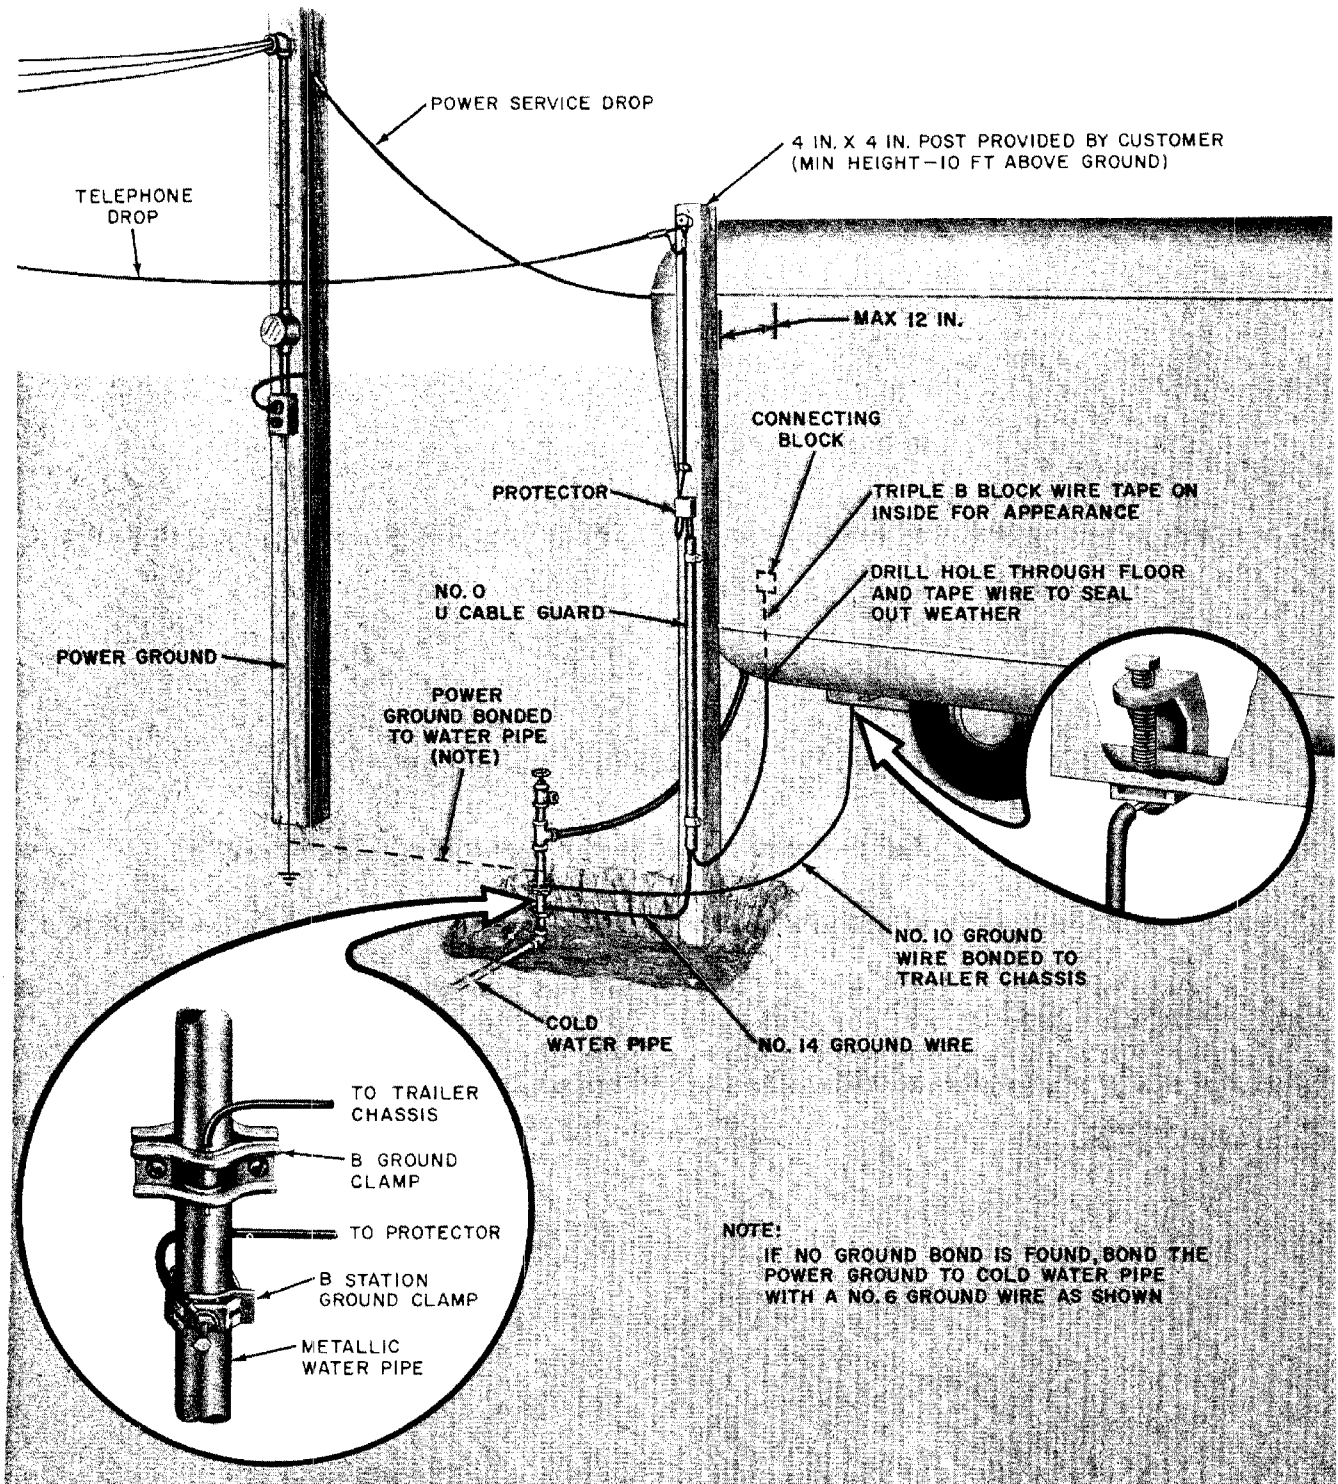

Fig. 3—Grounding Methods—Aerial Distribution
4.01 Installations generally vary, depending on the type of facilities provided by the customer. Typical grounding arrangements are shown in Fig. 3 and 4.
4.03 ♦ Refer to Section 460-100-201 for selection and installation of protector grounds and wiring of protector. For a mobile home the best ground is the power ground system. Using a #14 ground wire, connect the protector to the power ground rod, ground wire, power service conduit, or a water pipe serving as a power ground. A typical installation of this type is shown in Fig. 3 and 4. If the power ground is not present or available, ground the protector to a driven ground